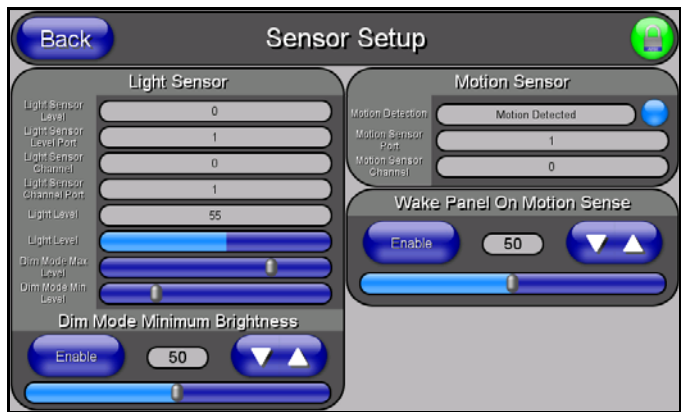

FIG. 97 Sensor Setup page
The Sensor Setup page (FIG. 97) allows you to adjust the Light and Motion Sensor parameters on a Modero touch panel.
3. Open the Sensors Setup page (FIG. 97) from the Protected Setup menu section.